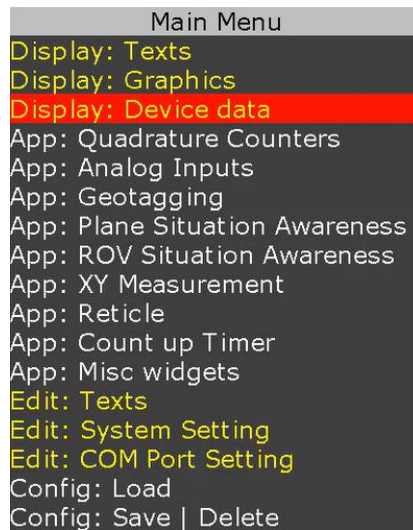
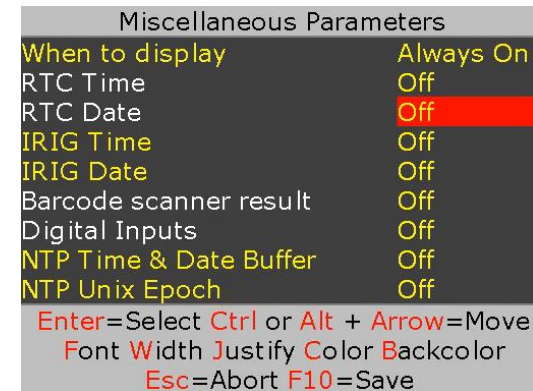

Figure 3
Figure 5
2. Follow Figure 3 - Figure 5 to insert the desired parameter
3. On Figure 5, use $\updownarrow$ arrow keys to select “RTC Time”